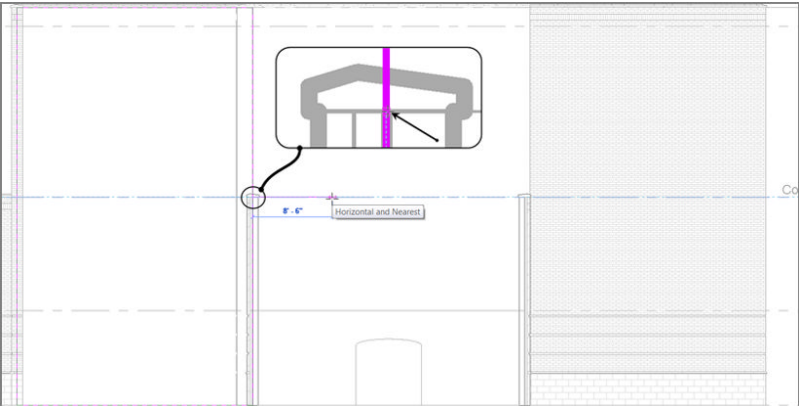

FIGURE 3.44: Revit aligns your cursor to levels, enabling you to sketch a new profile accurately.
5. With the Line command running, move your pointer to the vertical magenta line on the right where it intersects the Corridor Parapet level, as shown in Figure 3.44.